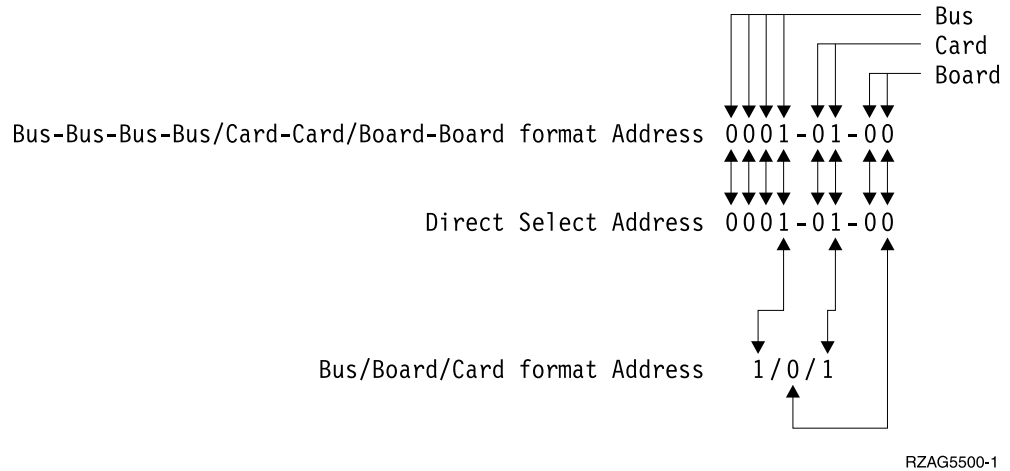

Figure 78. Format Conversion
- Use Figure 78 on page 770 to understand how addresses in the Bus/Board/Card format relate to the Bus-Bus-Bus-Bus/Card-Card/Board-Board format. You can also use Figure 78 on page 770 to understand how addresses in the Bus/Board/Card format relate to the direct select addresses used in “System Unit and Expansion Unit Locations and Addresses” on page 712.
x1 = System bus	The one, two or three digit decimal representation of the hexadecimal Bus value of the Bus-Bus-Bus-Bus/Card-Card/Board-Board format Address at the top of Figure 78 on page 770.
x2 = System board	The one or two digit decimal representation of the hexadecimal Board value of the Bus-Bus-Bus-Bus/Card-Card/Board-Board format Address at the top of Figure 78 on page 770.
x3 = System card	The one or two digit decimal representation of the hexadecimal Card value of the Bus-Bus-Bus-Bus/Card-Card/Board-Board format Address at the top of Figure 78 on page 770.